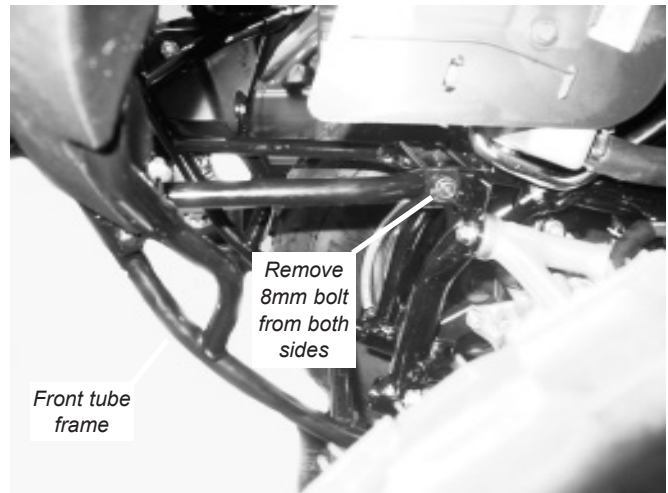

Figure 2 Remove 8mm bolt from both sides
2. Remove the 8mm bolts on both sides located just inside the front tires and on the ends of two horizontal tubes on the front tube frame as shown in figure 2.